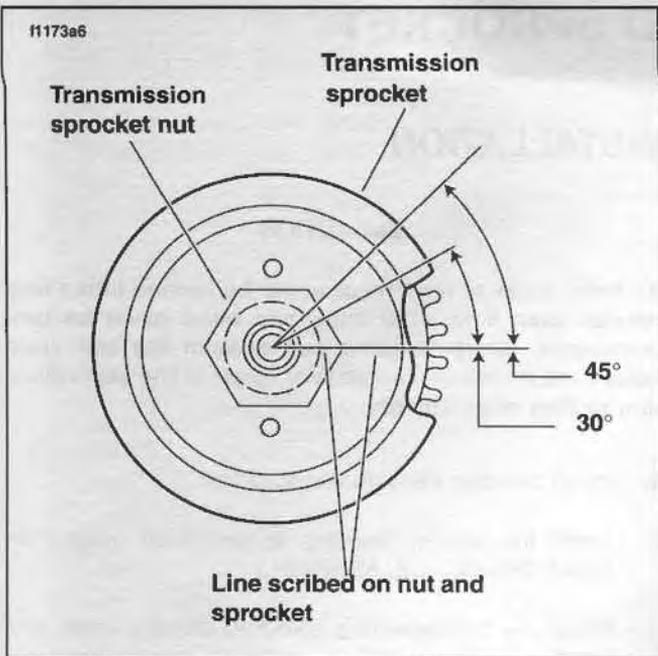

Figure 6-22. Transmission Sprocket Nut Final Tightening Procedure
6. See Figure 6-22. Scribe a line on the transmission sprocket nut and continue the line on the transmission sprocket as shown.